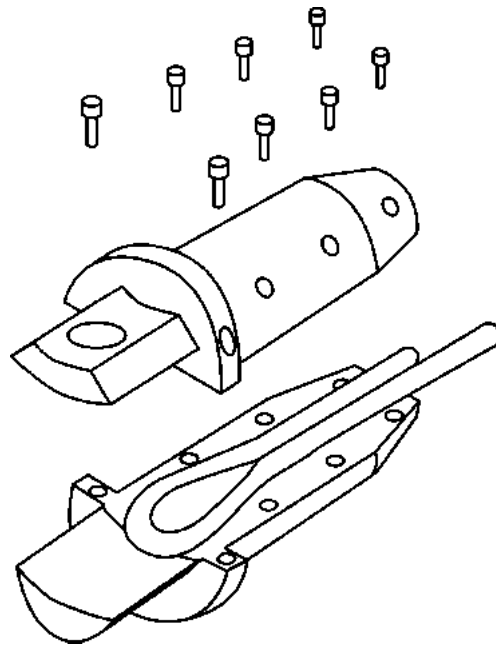

Figure 4 – Removing Rope from Socket
- 12. **Removing Rope.** Should replacement on shortening be required, the rope and wedge may be removed by dismantling the socket body using a 10 mm allen key (Figure 4). The socket bodies and wedge must be inspected for excessive wear at the point the wire rope strands are jammed into them. Re-assemble socket body by tightening the socket head cap screws to 76 N.m prior to re-reeving the wire rope.